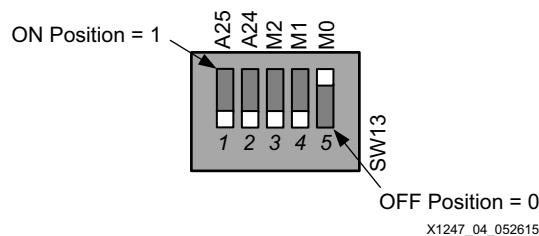

Figure 4: KC705 SW13: Mode Pin Settings
1. Ensure that the appropriate configuration mode (Master SPI) is selected for switch SW13 on the KC705 board as shown in Figure 4. For SPI configuration mode, mode pins M[2:0] are set to 001.